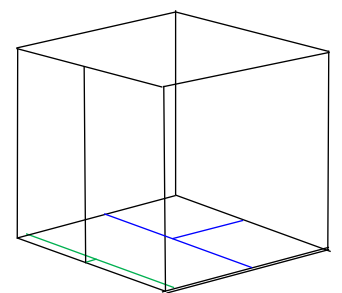

fig. 6
- 4.2 Select the 2 front wall nogs (106mm and 823mm) and the 2 door studs (marked blue). Use the left nog (106mm) to position the left door stud (first at the top & then at the bottom) and nail the studs in place using 2 x 75mm nails at each end. *(in green fig.6)*
- 4.4 Repeat with the RH door stud and nog (823mm) *(in blue fig.6)*